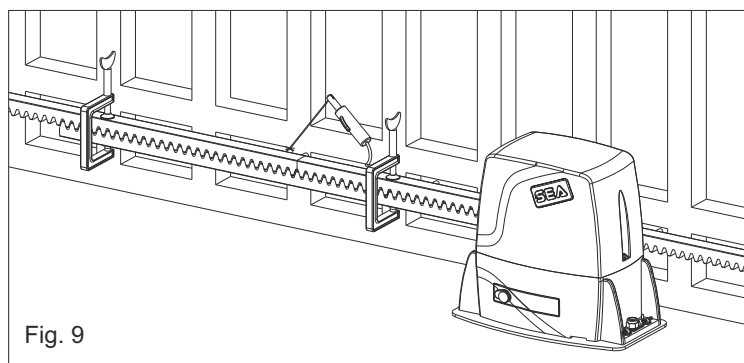

Fig. 9
5.4. Make sure that all the gear rack elements are perfectly aligned and placed correctly (teeth in phase). It's suggested to place two aligned elements in front of a third one as shown in Fig.9;